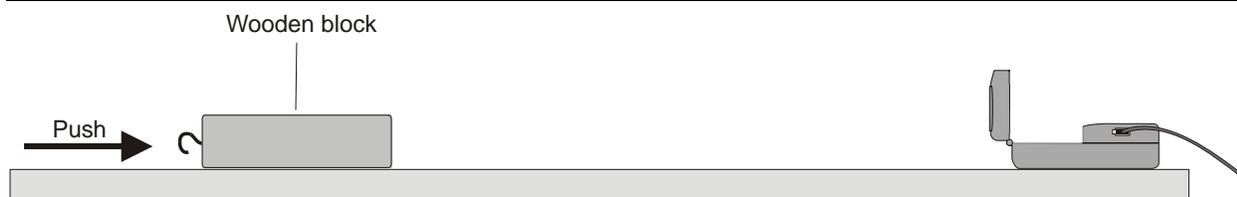

Figure 2
20. Place the Motion Detector on the lab table about 2 m from a block of wood, as shown in Figure 2. Use the same surface you used in Part II. Position the Motion Detector so that it will detect the motion of the block as it slides toward the detector.